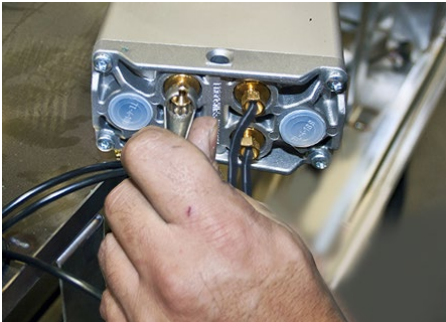

Fig. 9: Remove old line from pump
3. From the hydraulic pump, trace the line connected to the old hydraulic leg. Cut all zip ties attaching the line to the sink. Disconnect the old hydraulic leg line from the pump by unscrewing it from the pump. Use the flare nut wrench to loosen the pump connection screw (Fig. 9 - Fig. 10).